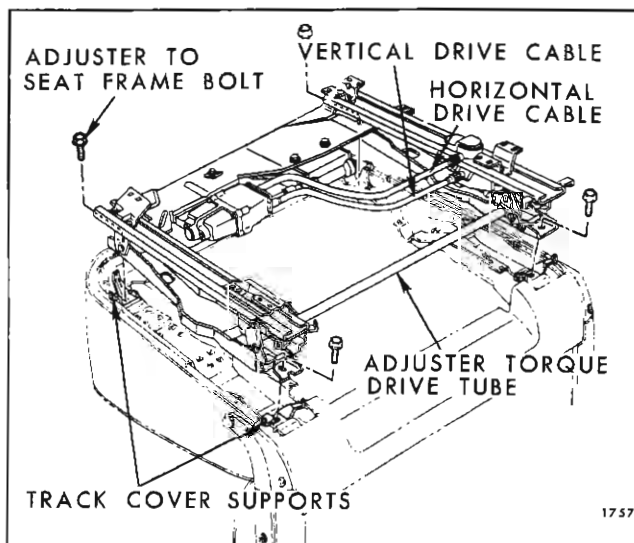

Fig. 1H23—Bucket Seat Adjuster and Motor Four-Way Tilt
removed, disconnect power drive cable from vertical gearnut and horizontal actuator (Fig. 1H23).
4. Remove adjuster-to-seat bottom frame front and rear attaching bolts (Fig. 1H23).
5. Remove nuts securing motor and transmission support to adjuster assembly. (See Fig. 1H24).